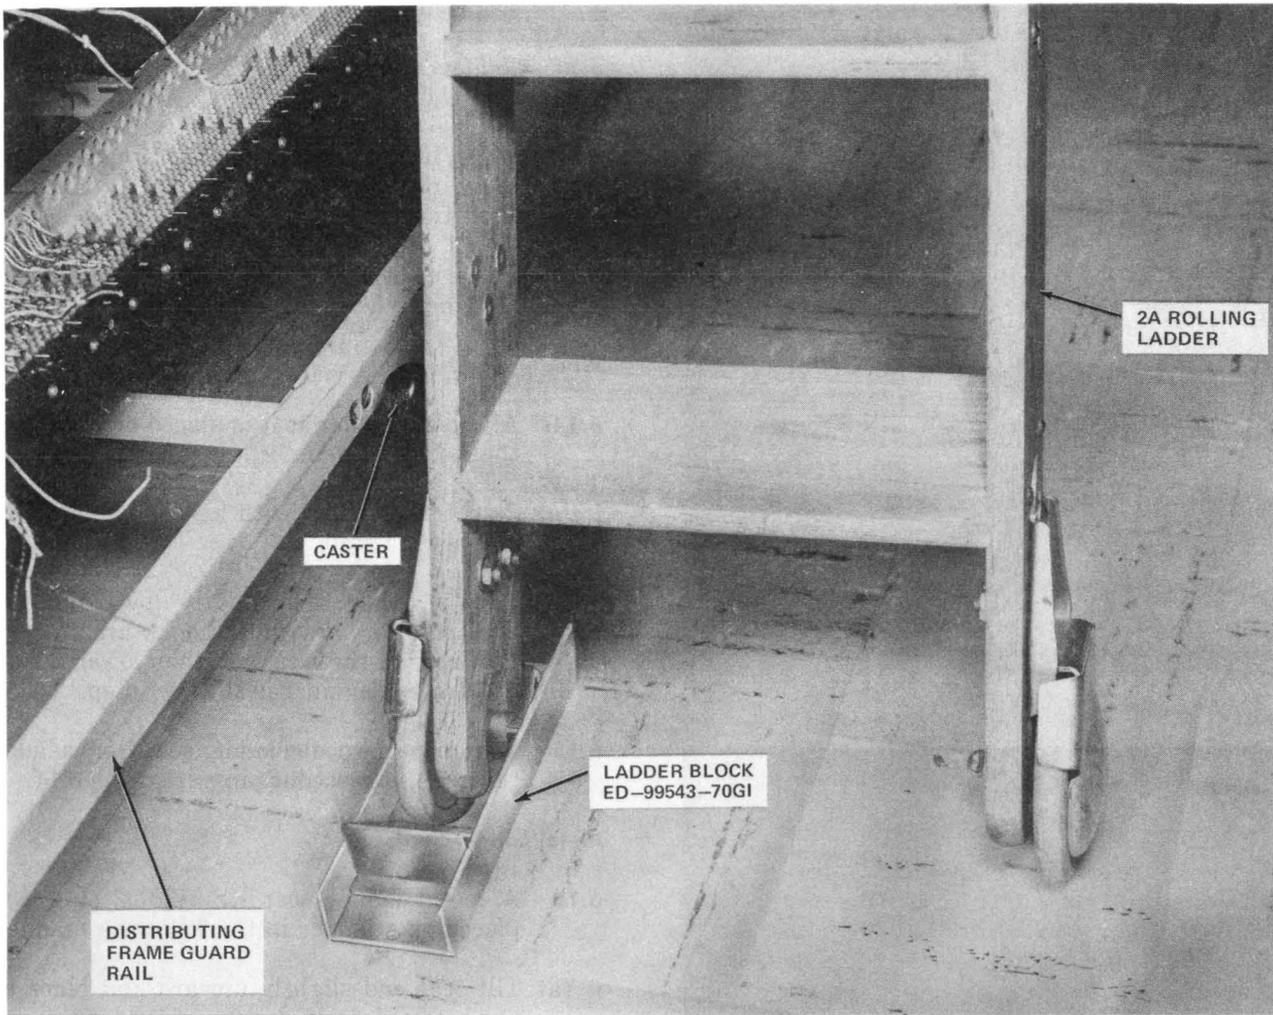
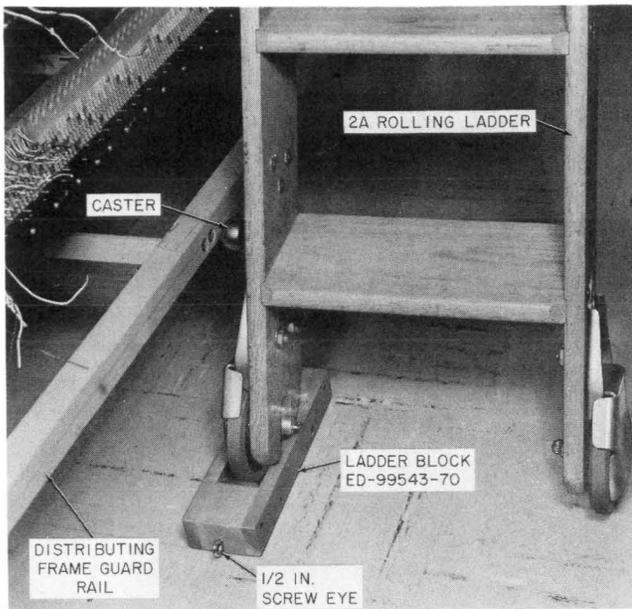

Fig. 5—Metal Ladder Block in Place Under Track Supported Ladder
Fig. 6—Wood Ladder Block in Place Under Track Supported Ladder
4.05 When operations listed in paragraph 4.06 are performed from a track supported ladder not equipped with brakes, the ladder block is to be placed under one wheel. (See Fig. 5 for metal block and Fig. 6 for wood block).